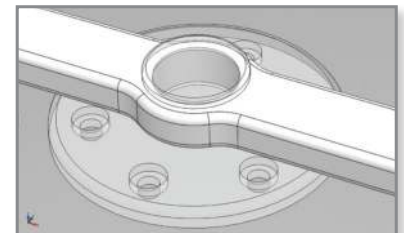

Figure 2: Properly aligned assembly components.
To achieve the most accurate fit, it is critical to position all mating components in the same manner relative to the XYZ axis (Figure 2). Choose an orientation for the entire assembly and build all components in the same orientation, as if they were assembled. Orient the mating surfaces in the X/Y plane whenever possible. The X/Y plane is the most accurate plane and is thus the best plane to orient critical mating surfaces.
STEP 2: Arrange components to create an assembly. Ensure the orientation matches the desired build orientation (Figure 2).